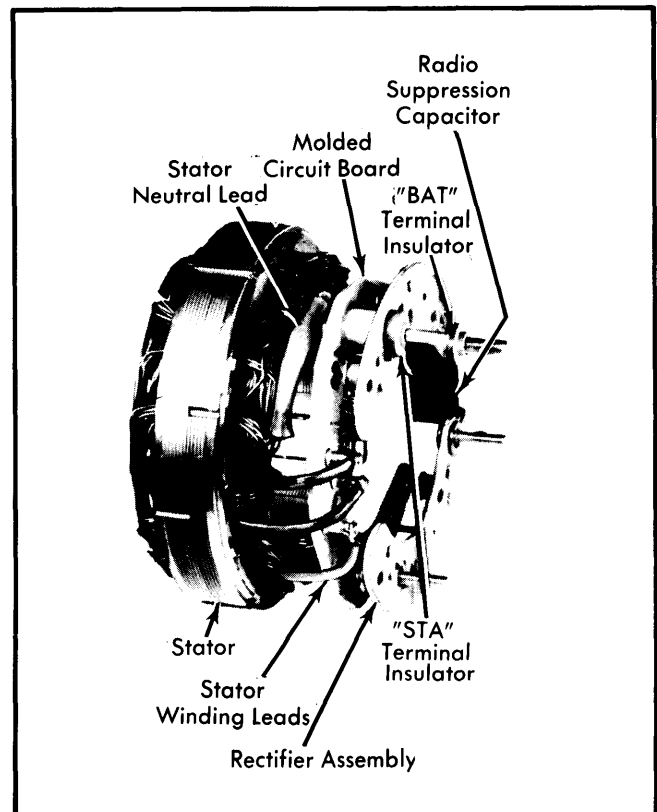

Fig. 4 View Showing Stator Lead Connections on Rear Terminal Models
Rectifier Shorted Or Grounded and Stator Grounded Test — Use an ohmmeter, set knob at "10", and calibrate as directed by manufacturer. Connect one ohmmeter probe to alternator "BAT" terminal and other probe to "STA" terminal and note reading. Reverse probes and note reading. A reading of 60 ohms should be observed in one direction and no movement with terminals reversed. A reading in both directions indicates a bad positive diode, grounded positive diode plate, or grounded "BAT" terminal. Perform same test using "STA" and "GRD" terminals. Readings in both directions indicate either bad negative diode, grounded stator winding, grounded stator terminal, grounded positive diode plate, or grounded "BAT" terminal. Infinite reading (no needle movement) in all four probe positions in the preceding tests indicates an open "STA" terminal lead connection inside alternator. See Fig. 4.
4) Wrap three stator winding leads around rectifier terminals and solder using suitable 100 watt soldering iron and resin-core solder. On 65 amp models, push terminals of stator wires onto circuit board terminals and solder. Position stator neutral lead eyelet on stator terminal screw and install screw in rectifier assembly. See Fig. 4.